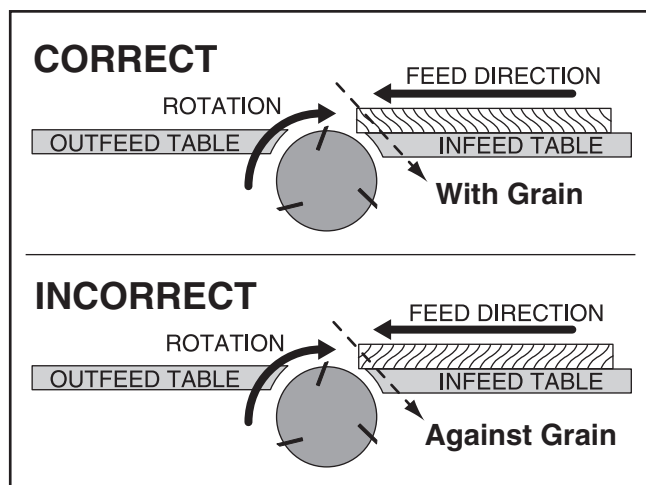

Figure 39. Proper grain alignment with the cutterhead.
- **Jointing and surface planing with the grain is safer for the operator and produces a better finish.** Cutting against the grain increases the likelihood of kickback and workpiece tear-out. DO NOT cut against the grain! Cutting with the grain is feeding the stock across the cutterhead so the grain points down and back, as viewed from the front edge of the stock (see **Figure 39**).